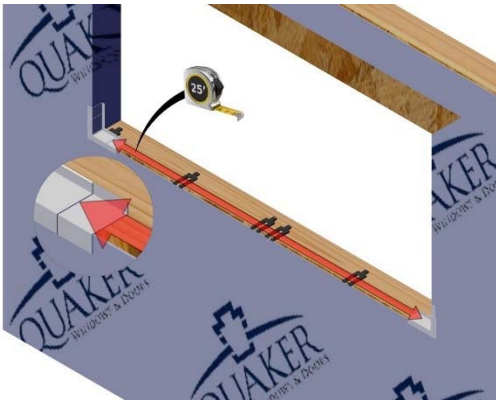

Fig. 7
- A. Measure and cut the center sill flashing section. (Fig. 7)